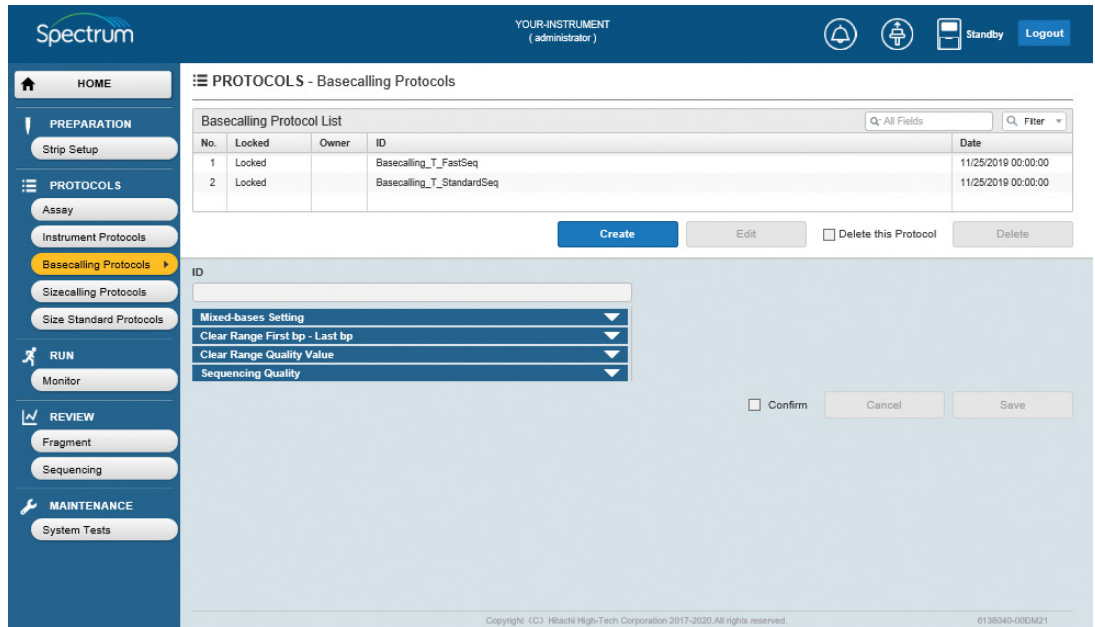
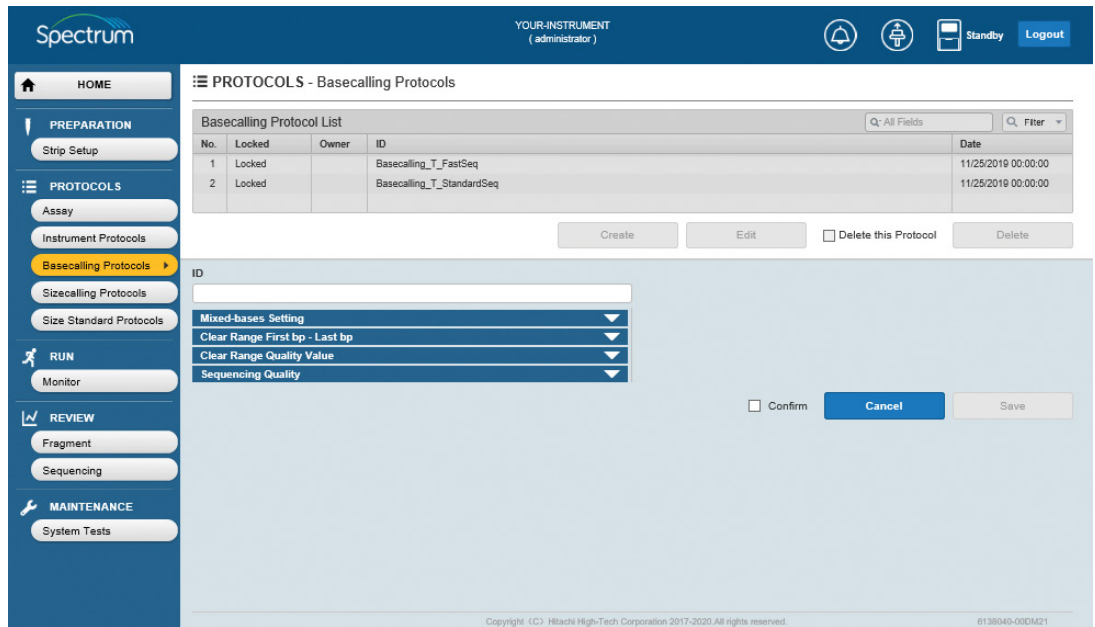

Figure 33. 'Basecalling Protocols' screen.
Figure 34. 'Basecalling Protocols' screen with active fields.
1. Select **Basecalling Protocols** under PROTOCOLS from the Main Menu of the 'HOME' screen (Figure 12), and then select **Create** (Figure 33). This activates the ID field (Figure 34) and the **Mixed-bases Setting**, **Clear Range First bp–Last bp**, **Clear Range Quality Value** and **Sequencing Quality** pull-down menus.